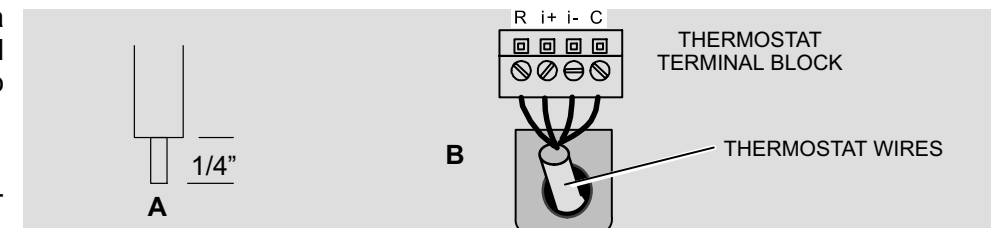

Figure 3. Wiring details
- E. Trim 1/4" insulation from end of each wire (figure 3, wiring detail A). Insert the trimmed ends of the wires in the appropriate holes on the bottom of the thermostat's terminal block and tighten the screws to secure the wires (figure 3, wiring detail B).